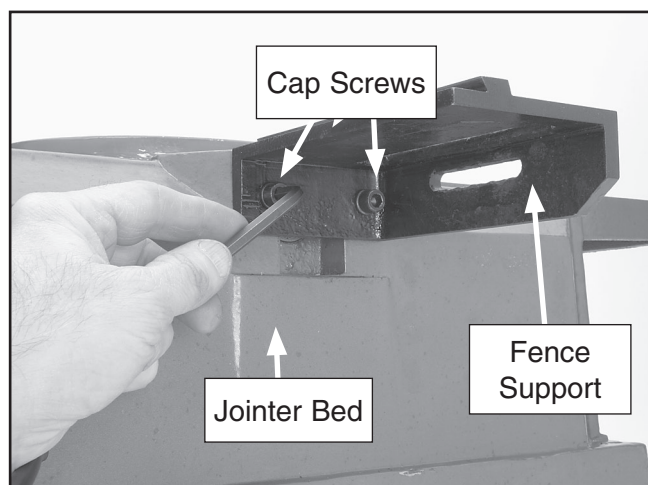

Figure 9. Attaching the fence support to the bed assembly.
2. Use two cap screws and lock washers to attach the fence support to the jointer bed as shown in **Figure 9**.